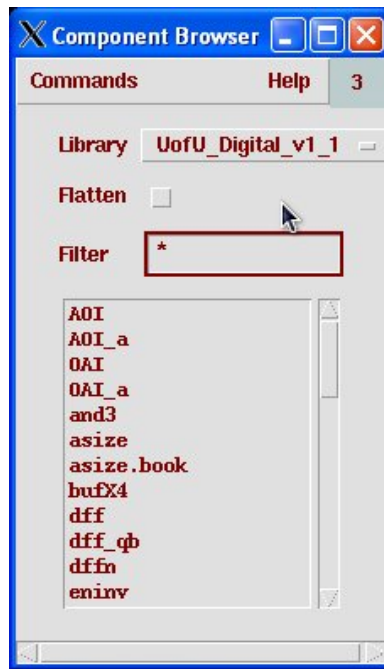

Figure 3.4: Component Browser dialog
4. **Adding Instances:** An instance (either a gate from the standard cell library, or a cell that you’ve designed earlier) can be placed in the schematic by selecting **Add** → **Instance** or pressing `i` on the keyboard, and the **Component Browser** dialog appears (shown in Figure 3.4). Choose a library from the **Library** list and then choose the cell from the list box and the outline of the component’s symbol will appear when your cursor is in the schematic window. Left clicks will add instances of that cell to your schematic.